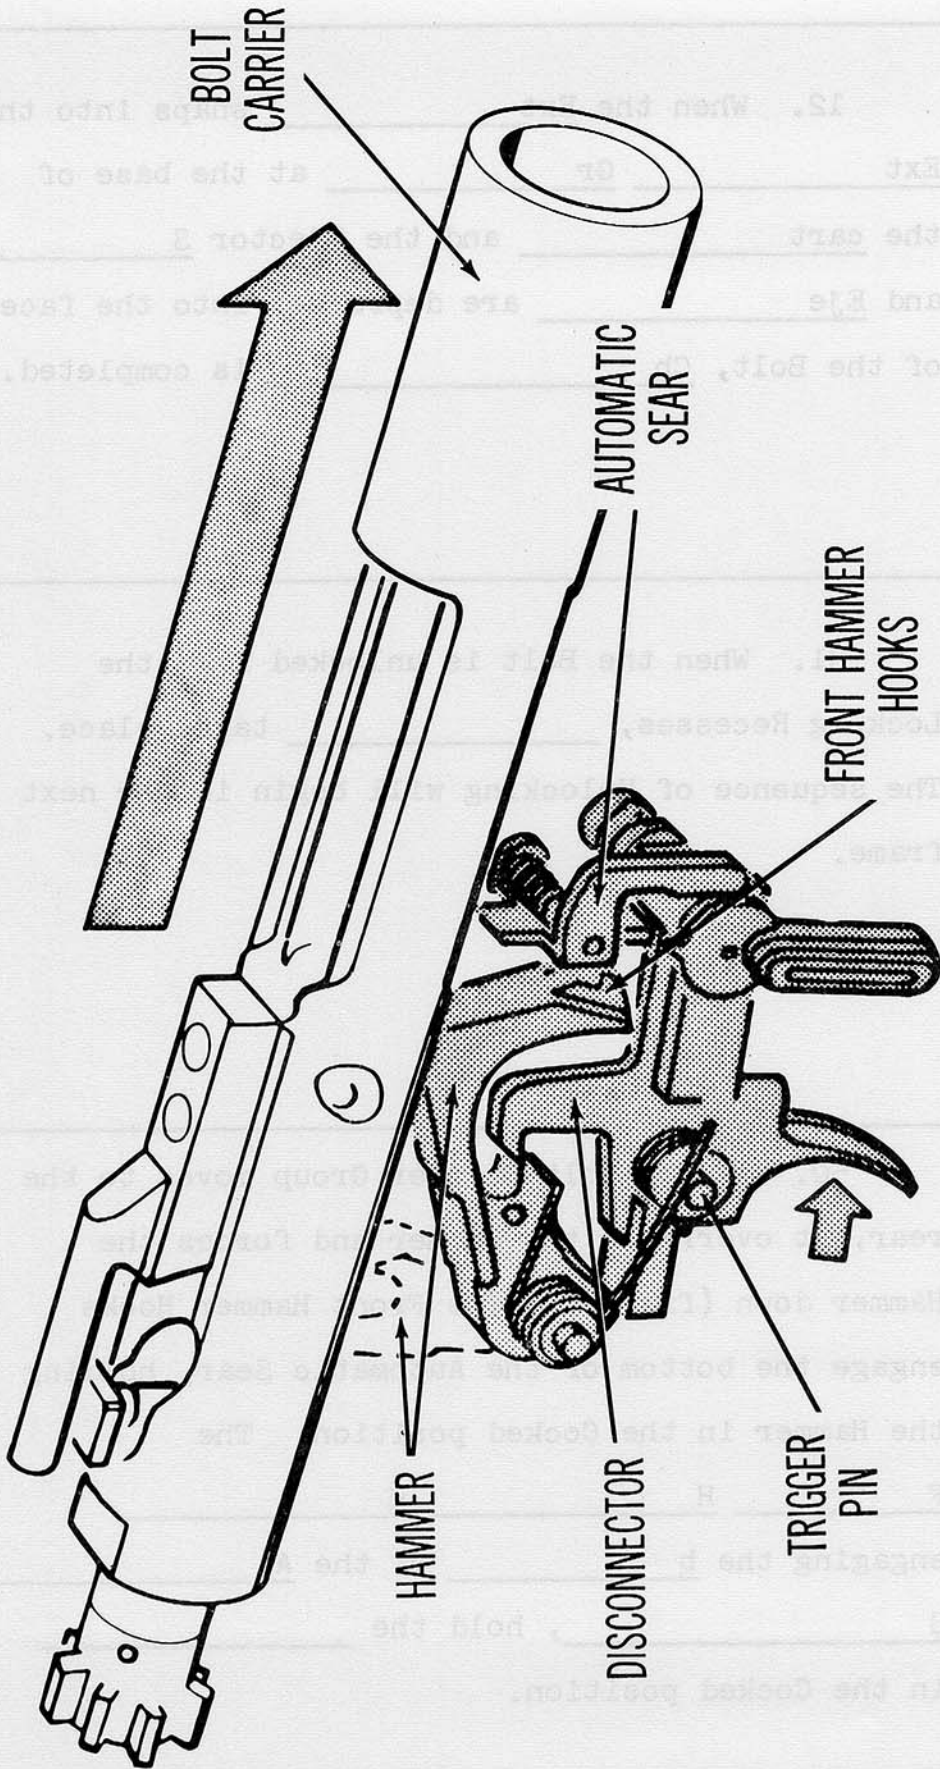

FIG. 9
50. As the Bolt Carrier Group moves to the rear, it overrides the Hammer and forces the Hammer down (fig. 9). The Front Hammer Hooks engage the bottom of the Automatic Sear, holding the Hammer in the Cocked position. The F \_\_\_\_\_ H \_\_\_\_\_ H \_\_\_\_\_, engaging the b \_\_\_\_\_ of the A \_\_\_\_\_ S \_\_\_\_\_, hold the \_\_\_\_\_ in the Cocked position.